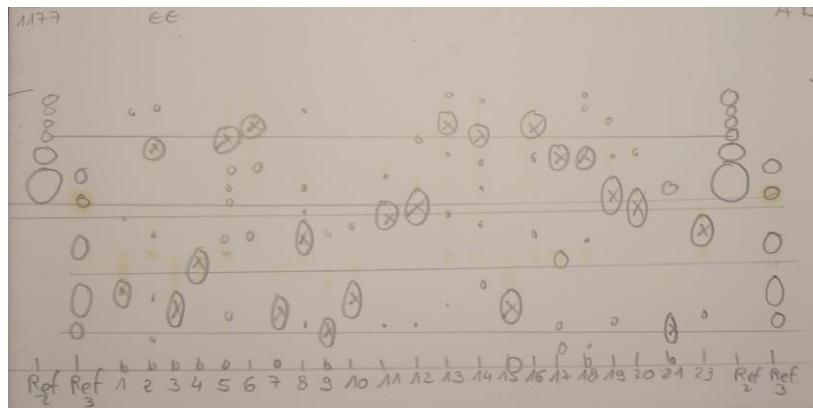

Fig. 1 TLC: parallel method assignment for 23 samples
1. The mixture to be separated is spotted on two TLC plates together with a spot of *Ref2* and *Ref3* (*Fig. 1*).